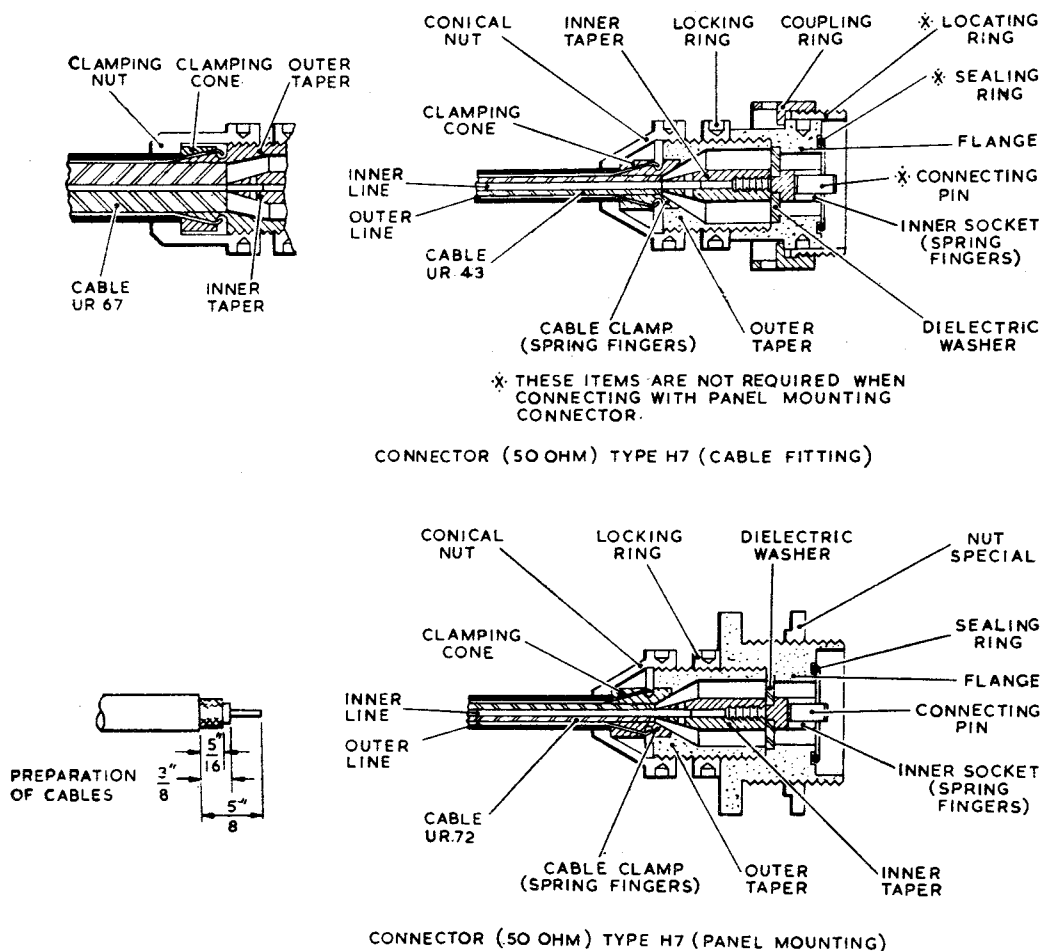

Fig. 5. Coaxial connectors Type H7: assembly details
13. All the IFF conductor components are made of brass, the inner and outer conductors being separated by P.T.F.E. spacers. 50-ohm coaxial connectors Type H7, details of which are shown in fig. 5, mate with the input and output elbow connectors. The stationary input elbow connector is integral with the stationary part of the IFF rotating joint and the top output elbow connector is detachable from the end of the rotating coaxial line, the axes of the connectors being spaced apart by  $35\frac{5}{8}$  in.
- (1) 30A plugs and sockets: Plessey Type UK-AN.7 contact.
- (2) 5A plugs and sockets: Plessey Mk. 4 18 contact.
- (3) Coaxial connectors: Marconi Type H7 (panel mounting) (fig. 5).
- (4) Coaxial cabling to brushes: Uniradio 72 (50 ohms).